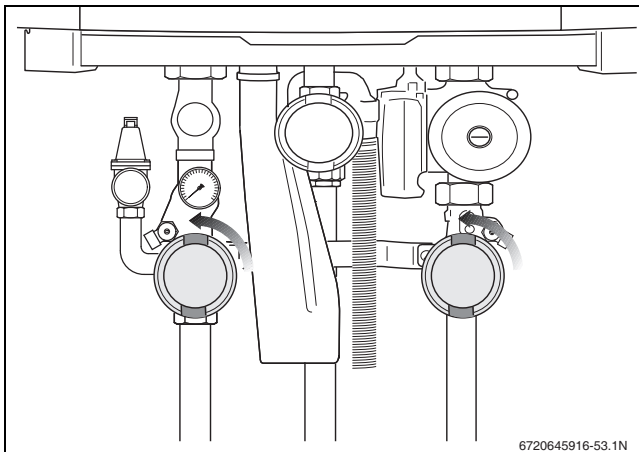

Fig. 56 Opening the isolating valves (here: open position)
- Open the heating supply and return isolating valves on the pump group (→ fig. 56). The open position is parallel to the pipe.